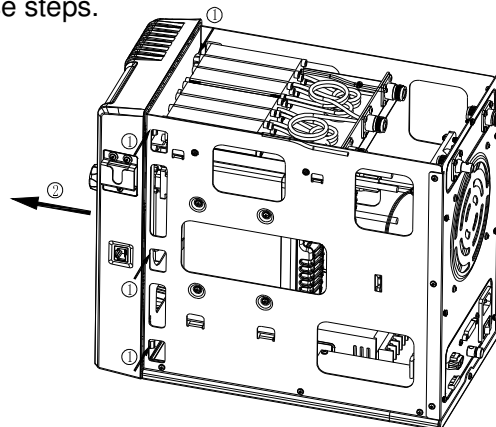

Figure 2
1. Press the 6 latches that locking the front panel to the housing to separate and remove them from the housing □, shown as Figure 2.
2. Remove the front panel □ shown as Figure 2, and pull out the two set of jumper wires, two repeater cables, accessory connector cable, and connecting cable of the DC power indication LED.